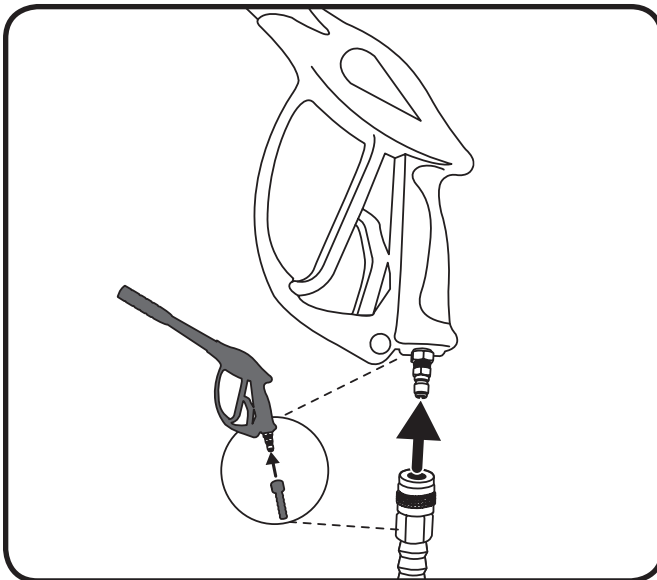

Figure 3-4
1. Attach high pressure hose to gun. Tighten securely. See Figure 3-4.